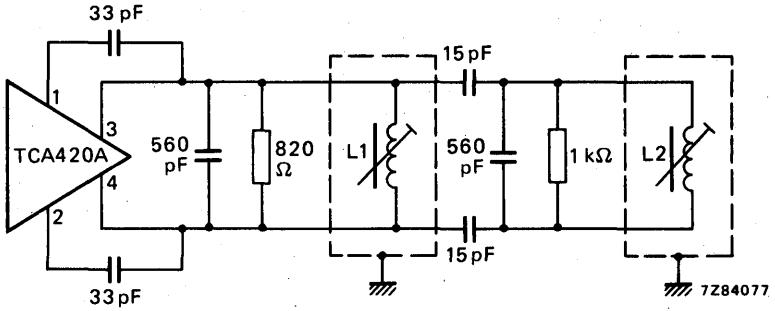

Fig. 18 Example of the TCA420A when using a detector with two tuned circuits;  $f_0 = 10,7 \text{ MHz}$ ;  $L1 = L2 \approx 0,4 \mu\text{H}$ ;  $Q_0 = 70$ .
- (1) Detector coil: see Fig. 18.
(2) De-emphasis: mono:  $C_{5-6} = 10 \text{ nF}$
Fig. 19 Total distortion as a function of detuning; circuit as Fig. 18;  $f_m = 1 \text{ kHz}$ ;  $C_{5-6} = 220 \text{ pF}$ .  $V_0 = 500 \text{ mV}$  for a frequency deviation  $\Delta f = \pm 75 \text{ kHz}$  and  $d_{tot} < 0,1\%$ .